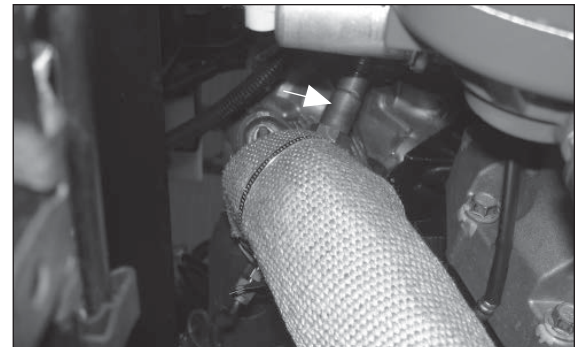

Figure 83
1. Locate the Ford O₂ sensor located on the inside of the vertical exhaust pipe, located on the PTO side (approximately 3-4 inches above the top of the PTO) (Fig. 83).